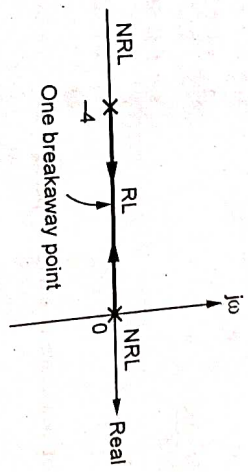

Fig. Q.25.1 (a)
Step 2 : Sections of real axis as shown in the Fig. Q.25.1(a).